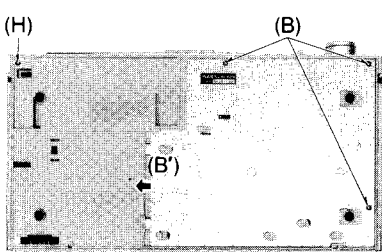

Fig. 2
<p>A Head position adjustment</p> <p>Condition:</p> <ul style="list-style-type: none"> • Playback and pause mode 	<p>(The head adjusting plate is provided to adjust the tape touch of the head in cue or review mode)</p> <ol style="list-style-type: none"> 1 Press the playback button and pause button 2 Measure the space between the pressure roller and the capstan. <div style="border: 1px solid black; padding: 5px; width: fit-content; margin: 10px auto;"> <p>Standard value: 0.5 ± 0.3mm</p> </div> <ol style="list-style-type: none"> 3 If the measured value is not within the standard value, untighten screw (A), and slide the head adjusting plate in the direction of arrow (B) for adjustment  <p style="text-align: center;">Fig. 2</p>